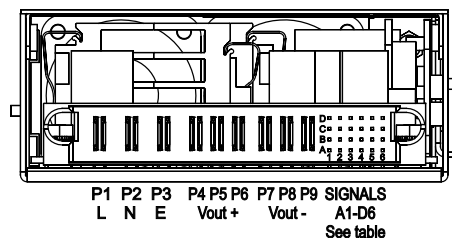

Figure 5 – Module Rear View showing connection details
12.1 Input Voltage and Connection - The **auro-he** Series operates from worldwide AC input voltages in the range of 85 to 264 VAC at 47 to 63 Hz. There are restrictions to the available total output power when operating at low line, 85-132VAC. The three-wire AC connection is made to pins P1, P2 & P3 on the rear mounted connector. See the connector diagram and Pin Connections table in Figure 5.